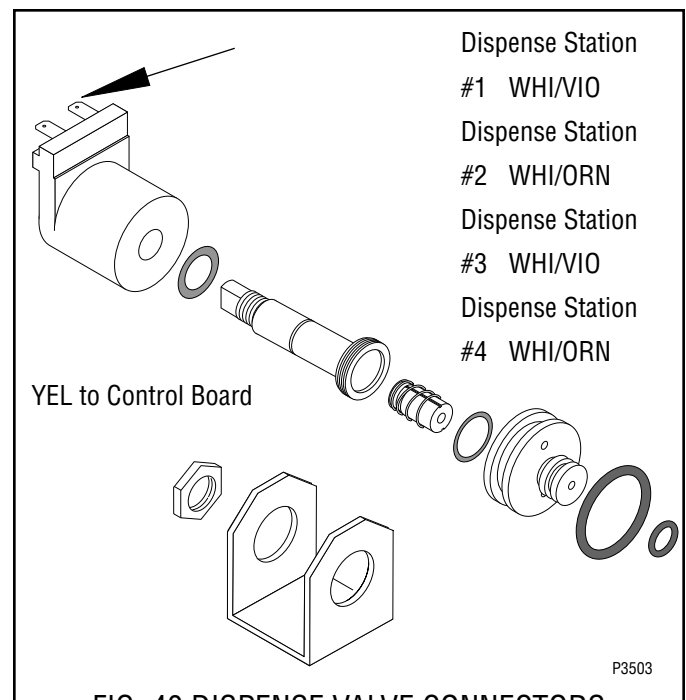

FIG. 40 DISPENSE VALVE CONNECTORS
7. Reconnect the two wires to the valve as shown in Fig. 40.